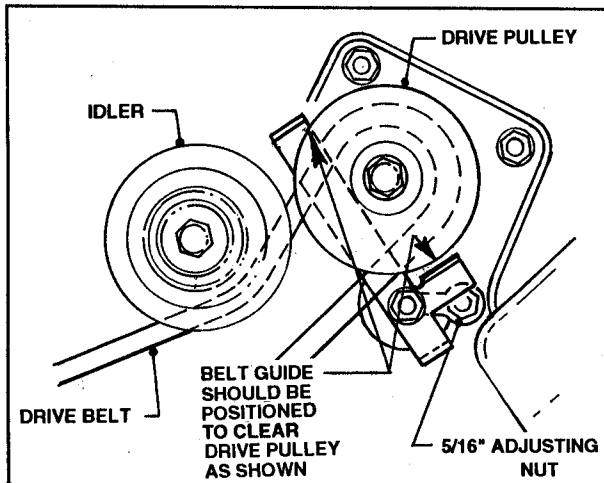

FIGURE 4.4
B. Loosen Idler and move downward in Slot and retighten. Refer to Figure 4.4.
- G. Reinstall new Belt by reversing this procedure. Position Belt Guide as shown in Figure 4.4